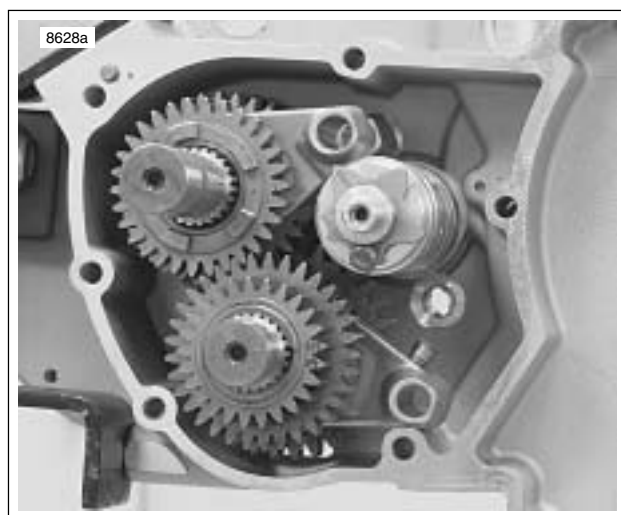

**Figure 6-54. Removing Shifter Fork Shafts**
1. See Figure 6-54. Remove shifter fork shafts.